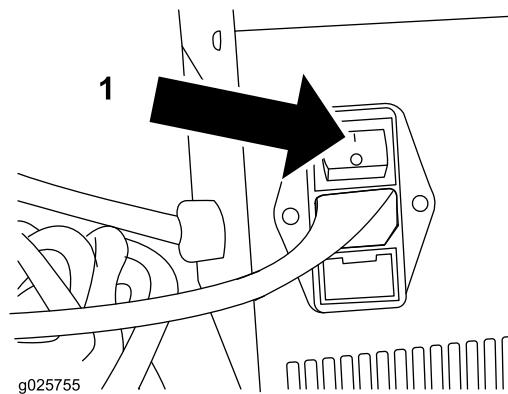

Figure 7
- 8. Turn the charger on (Figure 7). The "ON" LED indicator will illuminate.